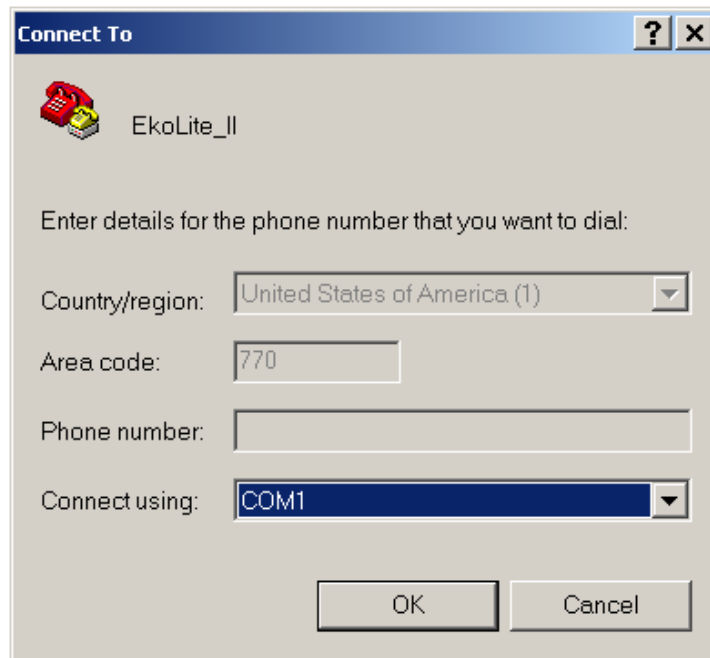

Figure A-2. HyperTerminal Screen for Direct Connection.
4. For a direct connection to the repeater, choose "Direct to Com X" in the drop down box in Figure A-2.